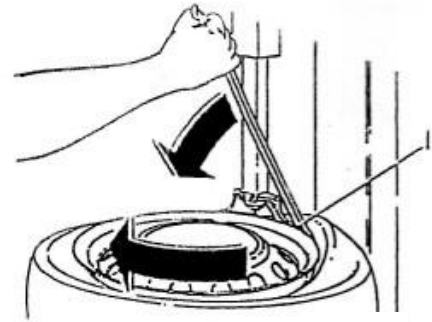
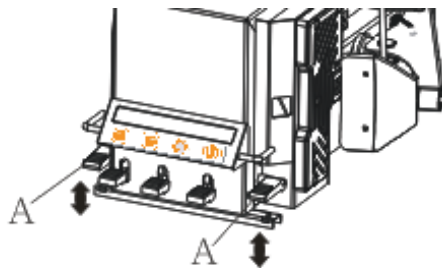

Fig. 17
Fig. 19
- With the lever inserted between the bead and the front section of the mounting head, move the tire bead over the mounting head (fig. 17).
- With the lever (fig. 17) held in this position, rotate the turntable in a clockwise direction by pressing pedal A (fig.19) down until the tire is completely separated from the wheel rim.
- Keeping the tire bead pressed down into the wheel rim channel with your hands, press down on the pedal A(fig.19) to rotate the turntable clockwise. Continue until you have covered the entire circumference of the wheel rim (fig.22A).